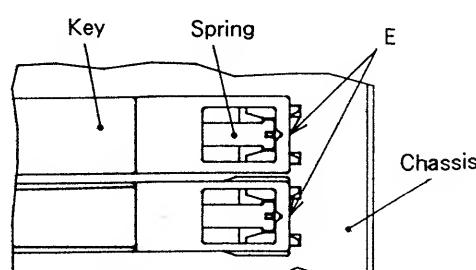
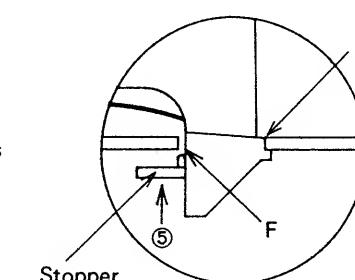

Fig.9
Fig.10
3. Referring to Fig.9 and Fig.10, verify that there is no clearance at the portion E between the key fulcrum and the chassis. Pressing the stopper in the direction of arrow ⑤, attach it on the portion F as shown in Fig.10.
ストッパーをシャーシ裏側に、Fig.10 に示す F に沿って、シャーシとキーのすき間に押し込むようにして貼る。